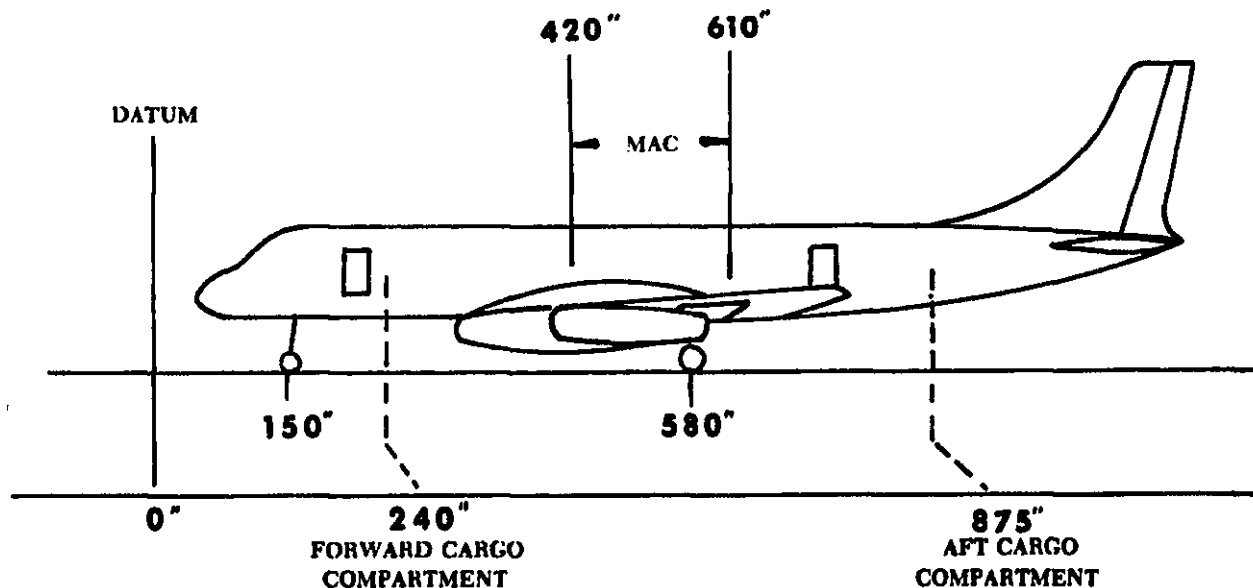

FIGURE 2. Weight and Balance Diagram.
14. The airplane illustrated in Figure 2 is loaded to a gross weight of 110,000 pounds. The C.G. is located at 30% MAC and the aft C.G. limit is located at 33% MAC. Where would the C.G. be located if 1,200 pounds of cargo were moved from the forward to the aft cargo compartment?